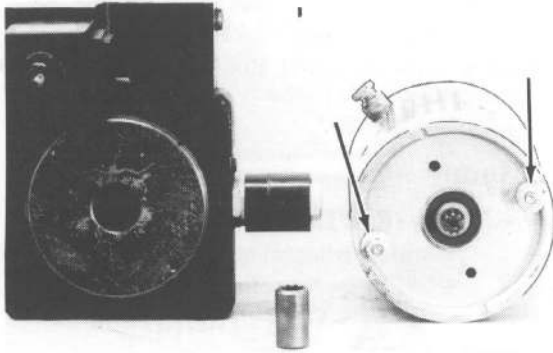

Figure 1-11
2. Install two nuts with washers onto the motor mounting bolts as shown to keep the motor assembly together for testing. See Figure 1-11.